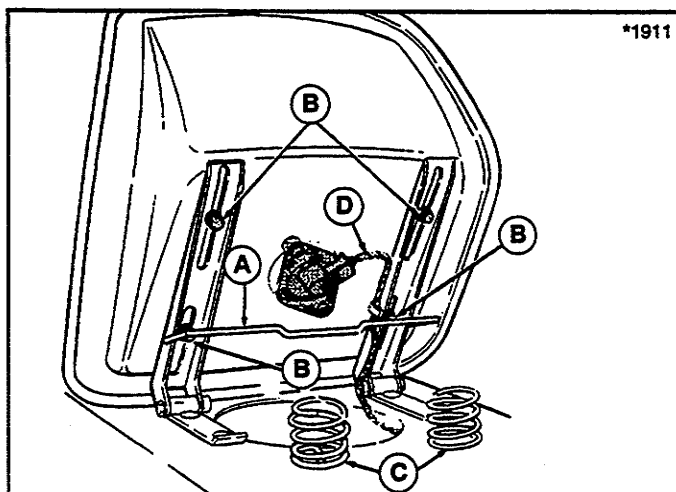

Figure 31. Seat Adjustment
1. Unlatch seat by pushing down on seat back and unhooking latch bar (A, figure 31).
4. The springs (C, figure 31) can be moved to forward holes for lighter operator. Pull up on springs to relocate.